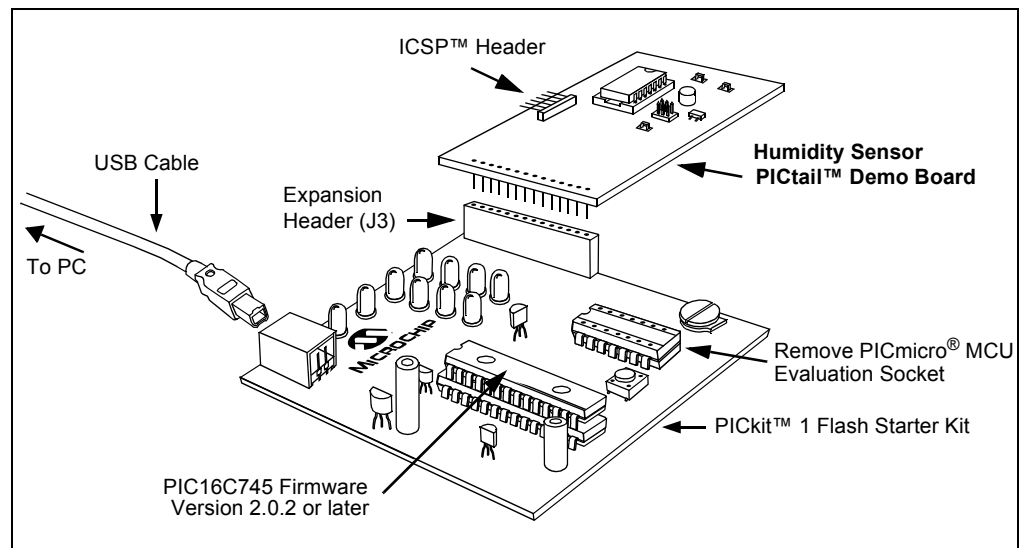

FIGURE 2-1: Board Connections for PICkit™ 1 Flash Starter Kit.
The PICkit 1 Flash Starter Kit (DV164101) programs PICmicro® microcontrollers. It is used to program the PIC16F690, and provides a communications link with the PC. The PICkit™ 1 Flash Starter Kit’s PIC16C745 has a USB port that communicates with the Humidity Sensor PC Program. It also connects to the Humidity Sensor PICtail™ Demo Board (the on-board PIC16F690) via a header (see Figure 2-1).
This section discusses the primary method for setting up the Humidity Sensor PICTail™ Demo Board. An exploded view of how the different boards connect is shown in Figure 2-1.
2. Plug this board into the PICKit 1 Flash Starter Kit's expansion header J3 (as shown in Figure 2-1) without covering the LED array. There should be no change in the status LEDs on the PICKit™ 1 Flash Starter Kit board after it is plugged in.